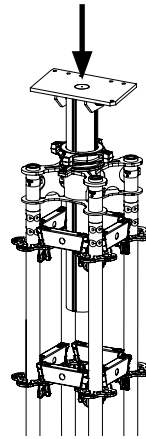

Fig. A5.11b
3. Spindle in the Head Spindle. (Fig. A5.11b)